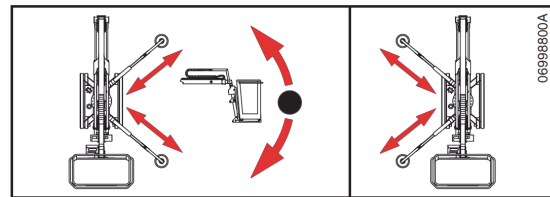

Figure 5-5. Hand Pump Control Decal
**Positioned Up** - for **right side** outrigger, track and boom functions. (See - *Figure 5-5.*)